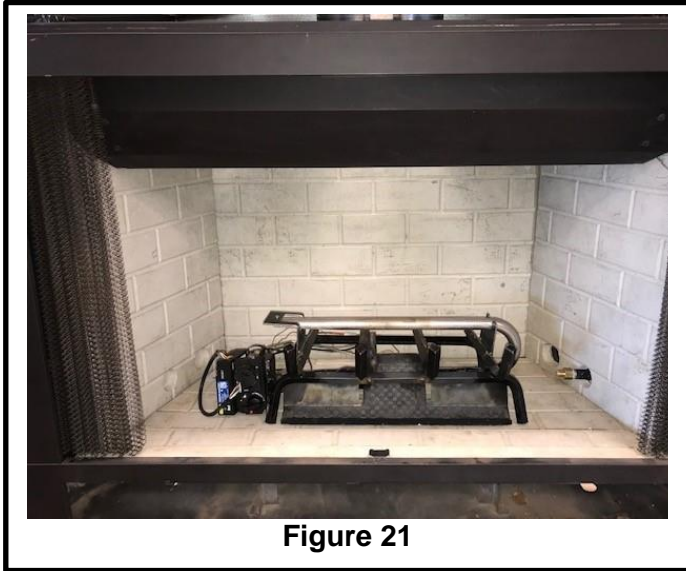

Figure 21
6. Place the burner system in the fireplace. Centering the burner front to back & side to side as shown in Figure 21.